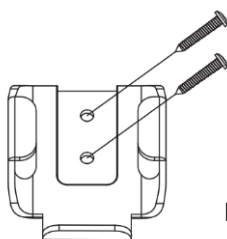

Fig. 14a
- Locate a suitable wall to fix the remote control holder with the 2 screws. (Fig.14a).